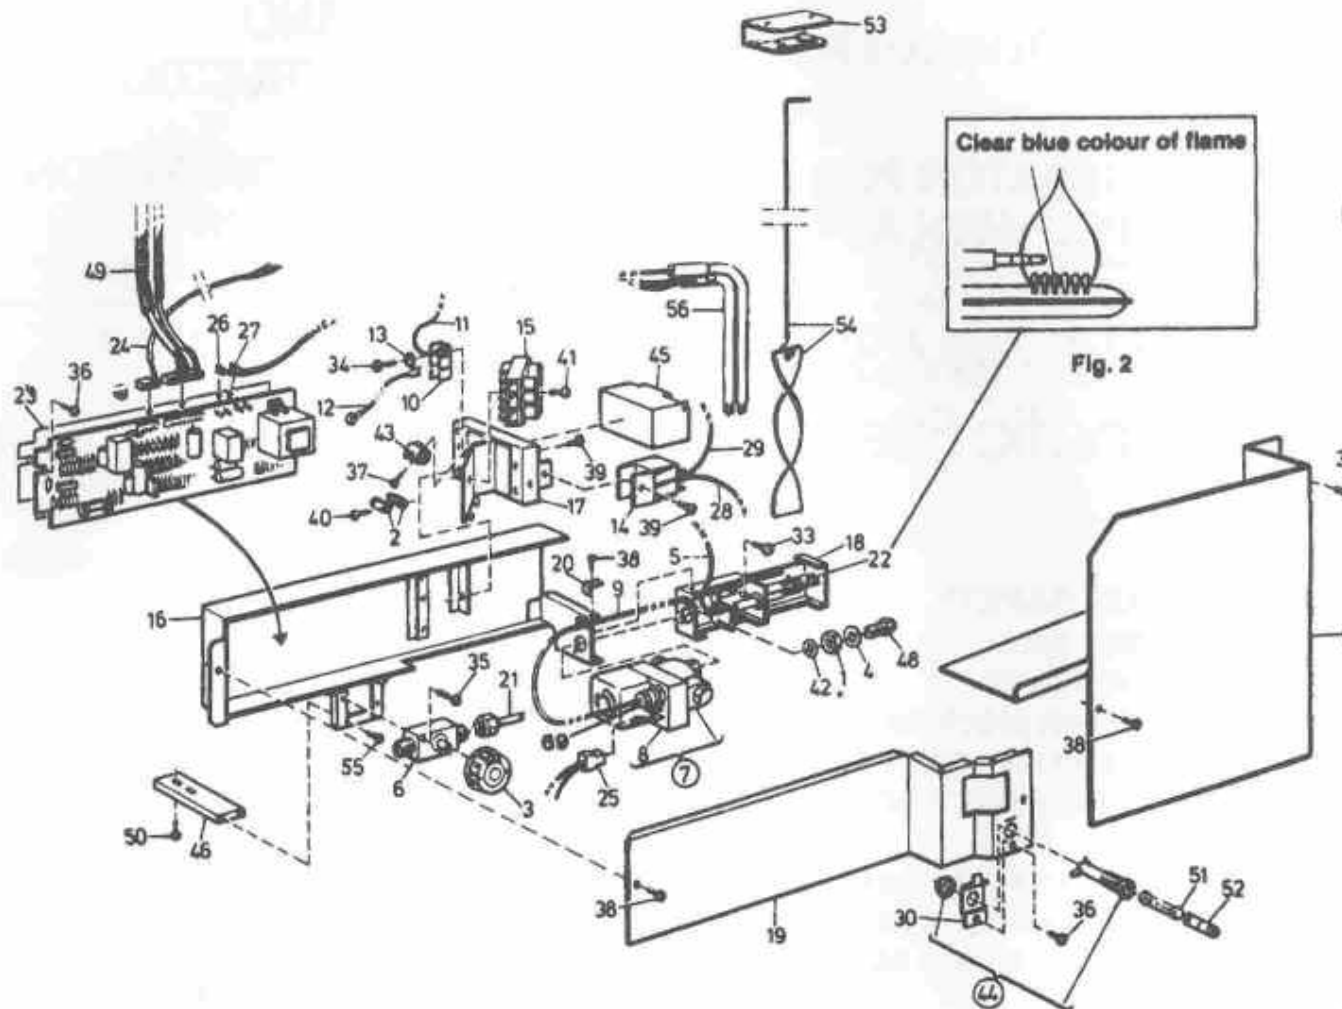

Fig. 1
3. Close the manual gas valve on the back of the refrigerator, item 6 in fig. 1.